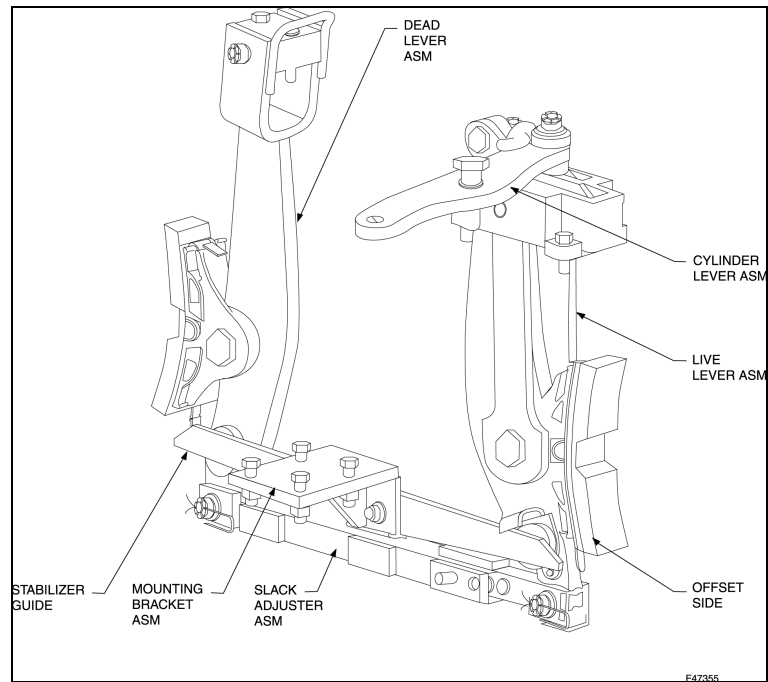

Figure 60 – Brake Shoe Application
- With all the Brake Lever Assemblies in place, apply Offset Brake Shoe in each location with Brake Shoe Key, as in Figure 60.